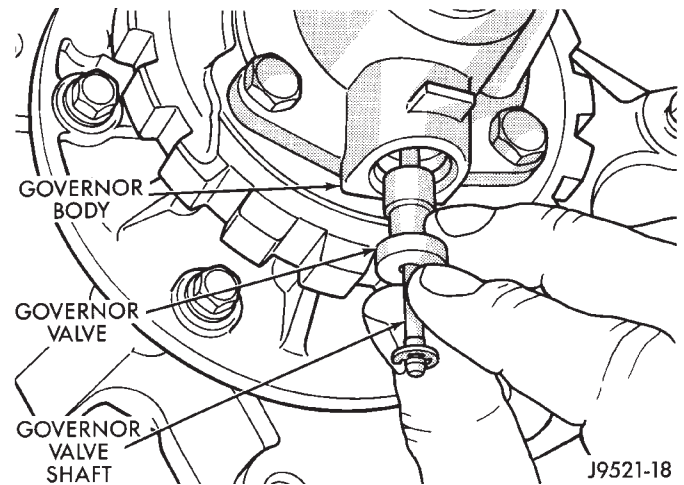

Fig. 13 Governor Valve And Shaft Removal
(2) Mark both propeller shaft yokes for assembly reference and disconnect propeller shafts at transfer case.
(3) Disconnect speed sensor wires and remove speedometer adapter and sensor.
(4) Position support stand under transmission converter housing.
(5) Remove rear crossmember.
(6) Disconnect parking brake cable at equalizer and disconnect exhaust components as necessary.
(7) Support transfer case with jack.
(8) Remove bolts attaching transfer case to transmission adapter housing and remove transfer case.
(9) Remove bolts attaching adapter, or extension housing to transmission and remove adapter/housing.
(10) Loosen but do not remove bolts that attach governor body to park gear.
(11) Rotate transmission output shaft until governor weight assembly is accessible. Then remove E-clip at this end of governor shaft.
(12) Remove governor valve and shaft from governor body (Fig. 13).